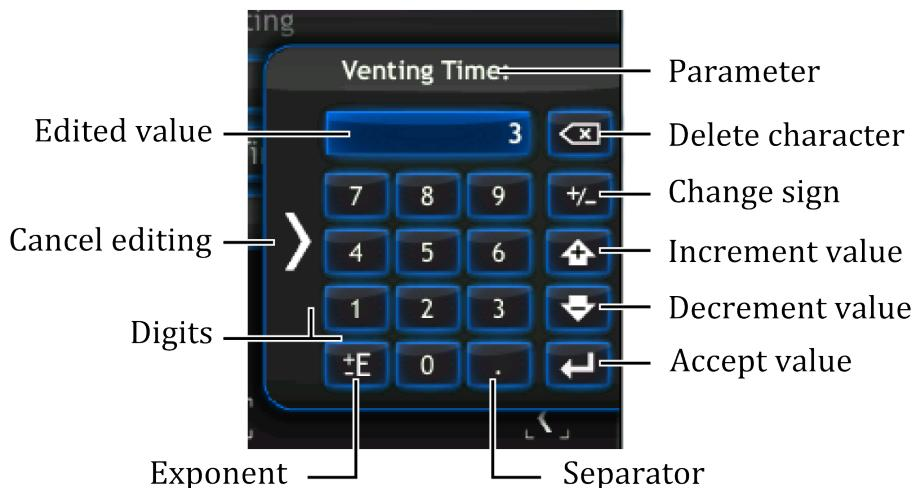

Figure 3.9: Numeric keyboard
Numeric values can be entered via the numeric keyboard. It consists of the numbers 0 to 9 and additional function keys to facilitate data entry and editing of the current data. The numeric keyboard is shown in Figure 3.9.
4. After entering the value, it is possible to modify the sign of mantissa and the sign of exponent by using the **Exponent** button or the **Change sign** button (see Figure 3.9).